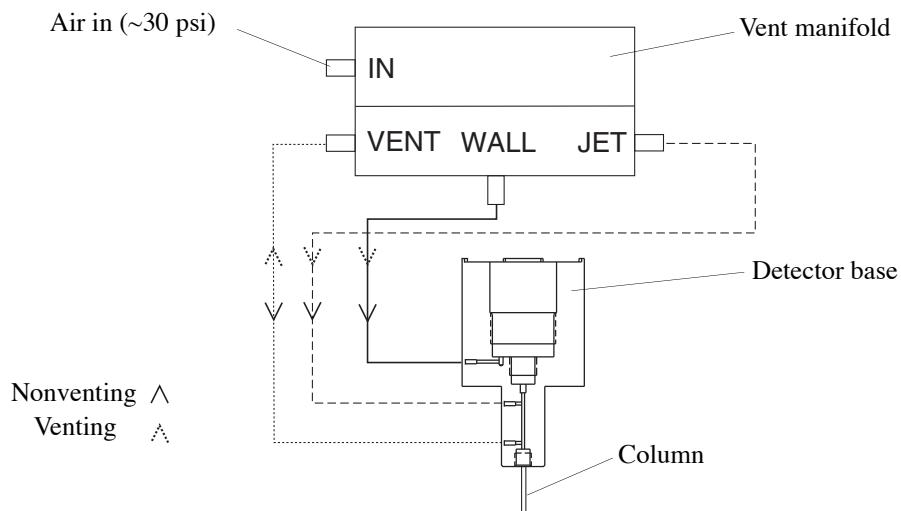

Figure 3.24. Gas connections between the XSD Detector Assembly and the vent valve manifold
3. Route the gas supply lines from the XSD to the vent valve manifold (instead of the cross fitting used without the venting option) (refer to Figure 3.24 and Figure 2.1).
5. Connect the proper gas lines from the detector base to the connections on the vent valve manifold labeled “VENT”, “WALL”, and “JET”. The gas lines are labeled appropriately. If the labels are not on the gas lines, refer to Figure 3.24 for proper identification.